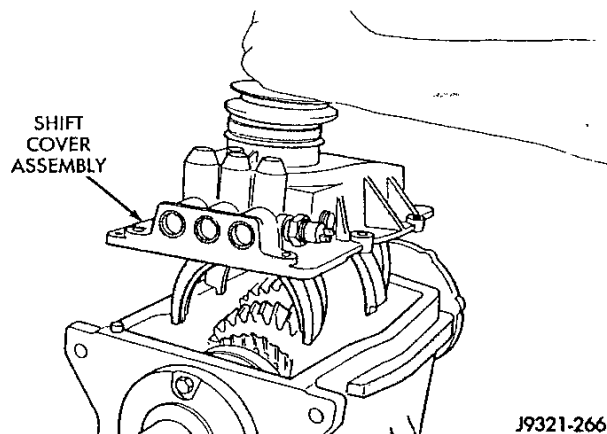

Fig. 2 Shift Cover Removal/Installation
(4) Remove shift cover assembly (Fig. 2). Discard old shift cover gasket. Note that a gasket was not used on early production transmissions. It is recommended that a gasket be used when shift cover is installed after overhaul.
(5) Set shift cover assembly aside for inspection.